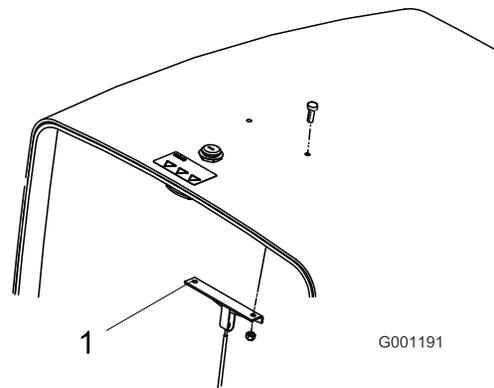

Figure 4
1. Remove and discard the 2 screws and nuts securing the hood cable bracket and to the underside of the hood (Figure 4).